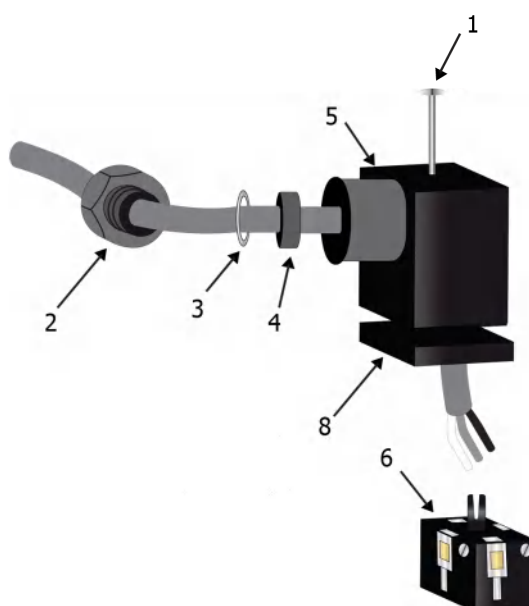

Figure 19 Pressure Transmitter Connector
- b. When the connector is unplugged from the transmitter, remove the central screw (1) (*Figure 19*) completely.
- c. Remove the gasket (8) (*Figure 19*) from the connector.
- e. Ensure that the outer diameter of the cable selected matches the outer housing's cable gland. To ensure that full ingress protection is achieved, the sensor cable used must have a minimum diameter of 4.6mm (0.18"). Slide the cable through the cable gland nut (2), washer (3), gland seal (4) and outer housing (5) (*Figure 19*).
- f. Apply crimps/wire ferrules to the flying leads of the cable. Connect these leads to the screw terminals on the terminal block (6) in accordance with the following pin-assignment drawing. Pin designations are marked adjacent to each pin.
- h. Tighten the cable gland (2) (*Figure 19*) around the cable. Ensure that the sealing is not damaged and that the cable gland and seals are assembled correctly in order to ensure ingress protection.
- i. Slide the terminal block (6) onto the connection pins on the transmitter.